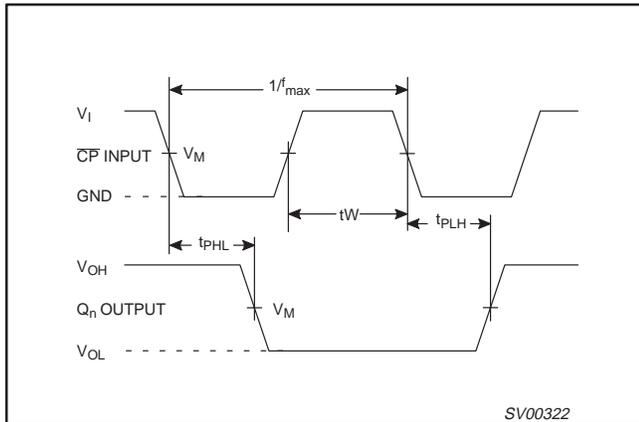

Figure 7. Clock (CP) to output (Qn) propagation delays, the clock pulse width and the maximum clock pulse frequency
| $t_{\text{PHL}}/t_{\text{PLH}}$ | Propagation delayCP to Q 0               | Figure 7, 9     | V CC (V) |                         |                  |     |                          |     | ns   |
| $t_{\text{PHL}}/t_{\text{PLH}}$ | Propagation delayQ n to Q n+1 | Figure 7, 9     | V CC (V) |                         |                  |     |                          |     | ns   |
| $t_w$                           | Clock pulse widthHIGH to LOW                        | Figure 7        | V CC (V) |                         |                  |     |                          |     | ns   |
| $f_{\text{max}}$                | Maximum clockpulse frequency                        | Figure 7        | V CC (V) |                         |                  |     |                          |     | MHz  |